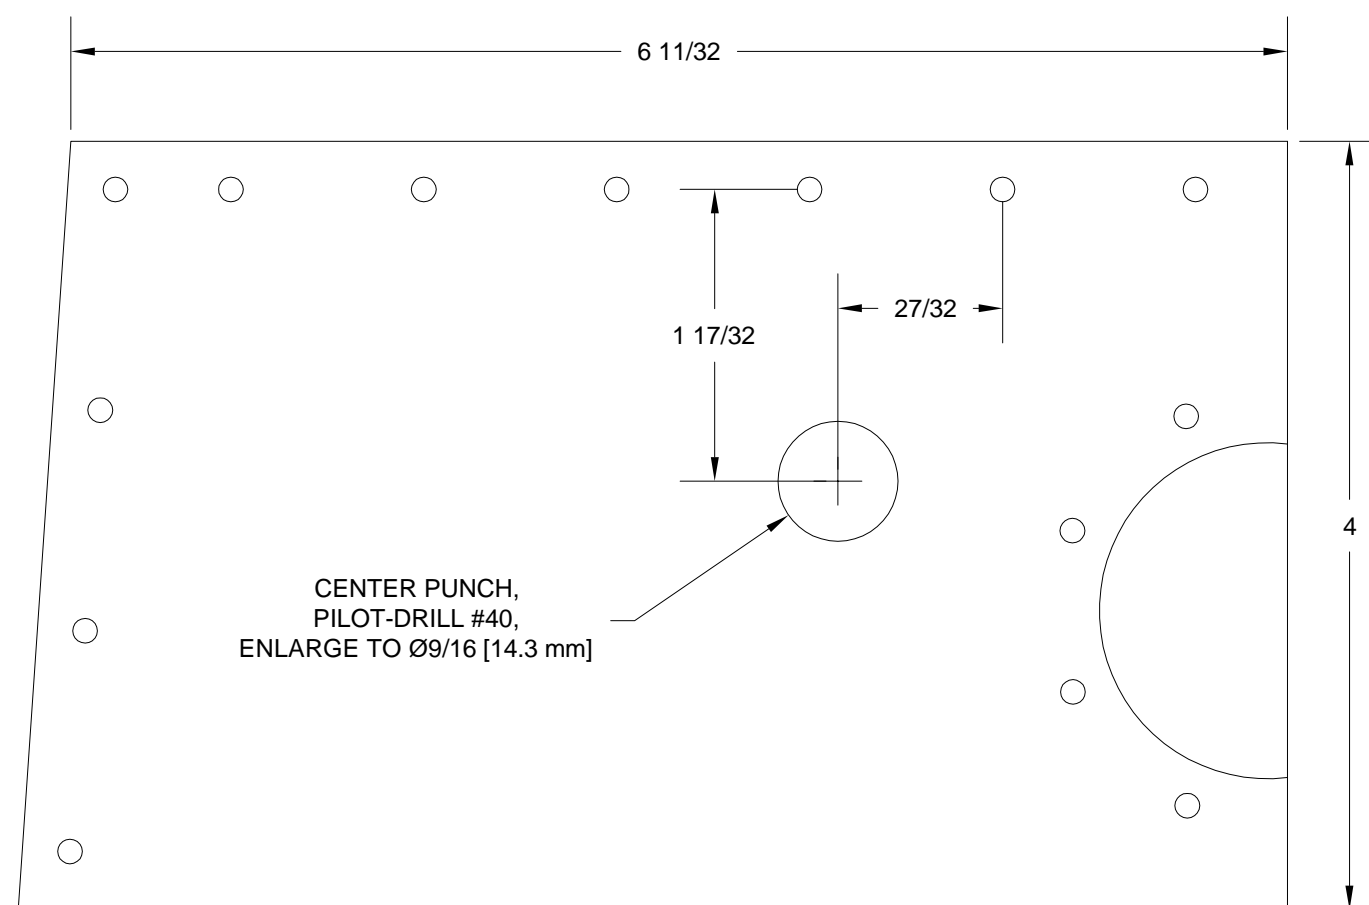

FIGURE 1: T-1204A-1 TOP TANK SKIN TEMPLATE
Step 2: Use the template shown in Figure 1 to drill the hole in the T-1204A-1 Top Tank Skin.